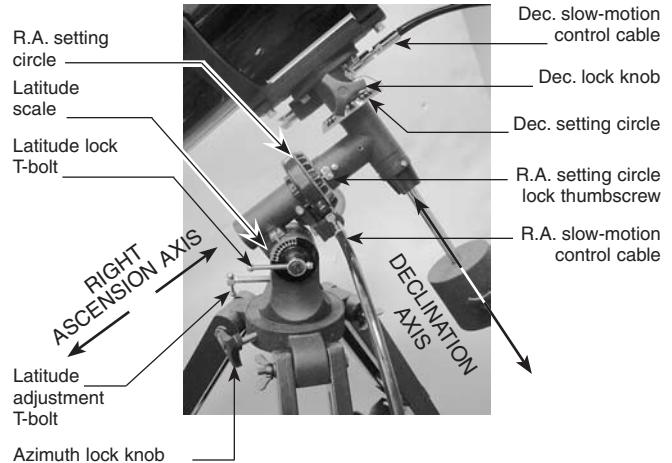

Figure 2. The SpaceProbe 130 ST's equatorial mount.
6. Orient the equatorial mount as it appears in Figure 2, at a latitude of about 40°, i.e., so the pointer next to the latitude scale (located directly above the latitude lock T-bolt) is pointing to the mark at "40." To do this, loosen the latitude lock T-bolt, and turn the latitude adjustment T-bolt until the pointer and the "40" line up. Then retighten the latitude lock T-bolt. The declination (Dec.) and right ascension (R.A.) axes may need re-positioning (rotation) as well. Be sure to loosen the RA and Dec. lock knobs before doing this. Retighten the R.A. and Dec. lock knobs once the equatorial mount is properly oriented.
When you look at the night sky, you no doubt have noticed that the stars appear to move slowly from east to west over time. That apparent motion is caused by the Earth’s rotation (from west to east). An equatorial mount (Figure 2) is designed to compensate for that motion, allowing you to easily “track” the movement of astronomical objects, thereby keeping them from drifting out of the telescope’s field of view while you’re observing.